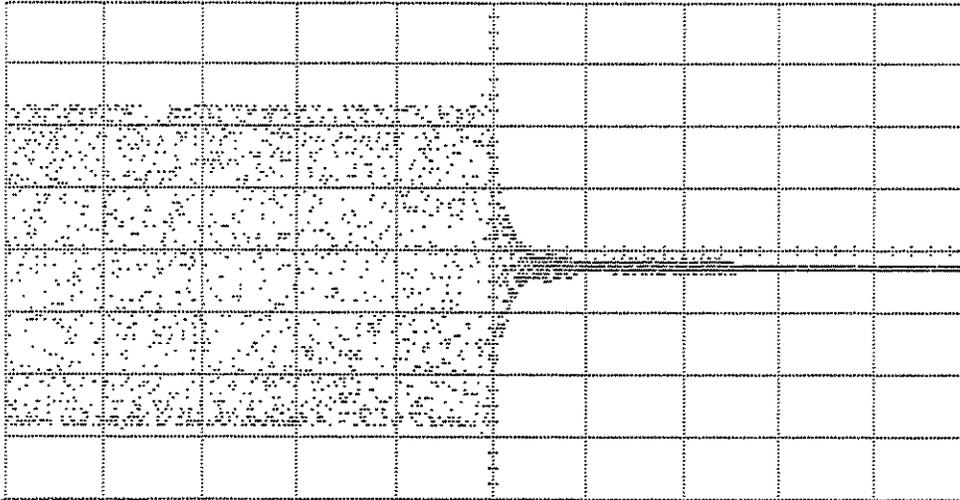

Figure 1-15. Pulse Falltime Measurement
2. Adjust the Signal Generator RF Output level so that the upper half of the envelope spans 2.5 vertical graticules as in Figure 1-15.
3. Adjust the oscilloscope's horizontal DELAY and vertical OFFSET functions in order to position the falling edge of the pulsed RF so that the 10% and 90% points cross horizontal graticules. Refer to Figure 1-15.